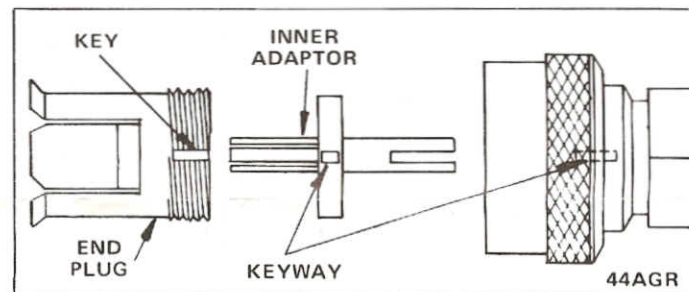

FIGURE 5
**STEP 5.** For 44AGR, gently place inner adaptor into base of GR connector on outer body, and engage it with inner conductor. See Figure 5. Use right turning motion to aid engagement. Align keyway in insulator with keyway in GR connector, then push adaptor toward outer body. Align key on end plug with keyways in insulator and GR connector base, then slide end plug into position. Tighten in place with locking nut.